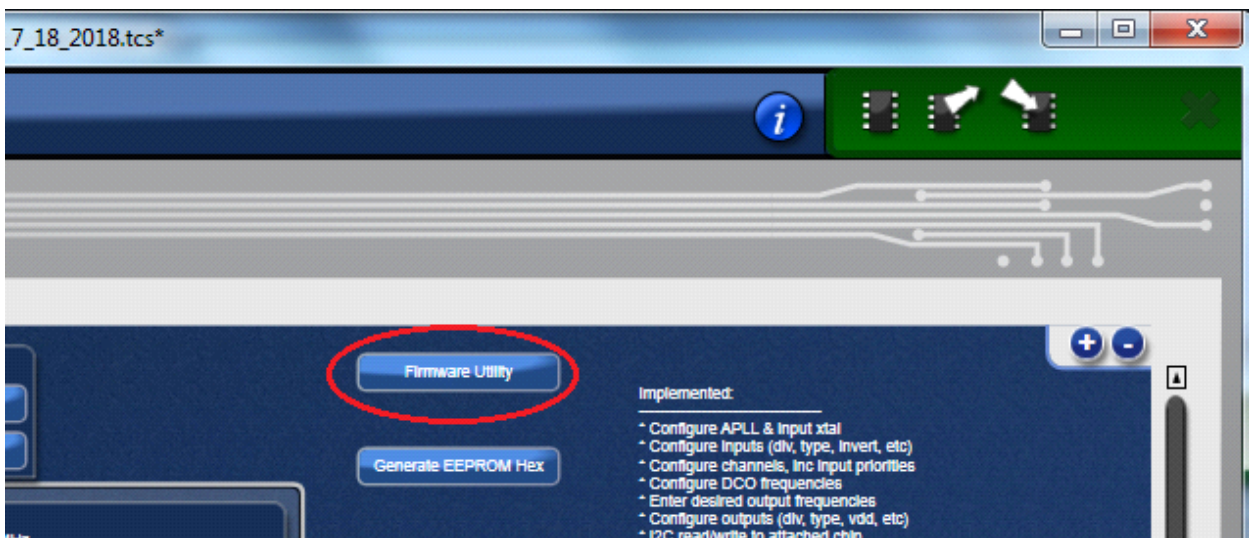

Figure 14. Reading Firmware Version
- Once the connection is made, the firmware version can be read within the GUI. Click the “Firmware Utility” button to bring up the Firmware Utility window, as shown in Figure 14.